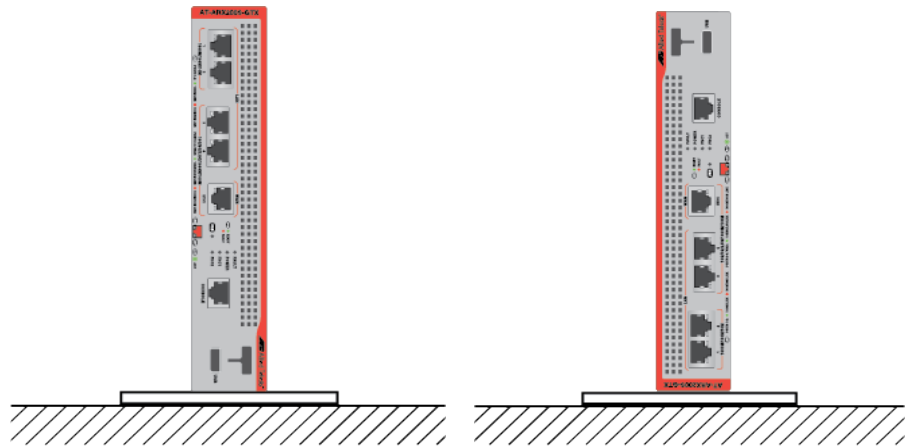

Figure 21. Router Installed Vertically By Itself on a Table
- ❑ The router can be installed upright by itself. Refer to Figure 21.